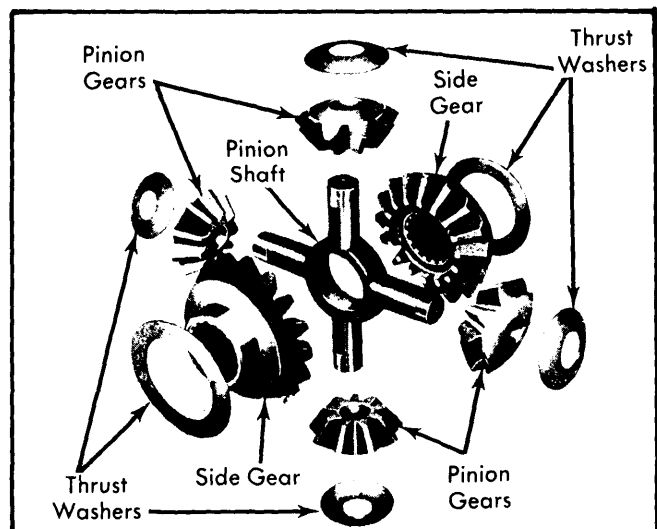

Fig. 5 Differential Pinion Shaft Pinion Gears, Side Gears, Thrust Washers
5) Install ring gear on differential half and rivet into place. Rivets should be installed cold and not heated. If correct rivet is used, rivet head will be approximately 1/8" larger than rivet hole and approximately the same height as preformed rivet head. If correct size rivets are not available, service replacement bolts can be installed. Lubricate machined surfaces on inside of differential halves and all components. Install one thrust washer and side gear in ring gear half. Install pinion gears and thrust washers on pinion shafts and place assembly in position in differential case half. Place other side gear and thrust washer in position on pinion gears. See Fig. 5.